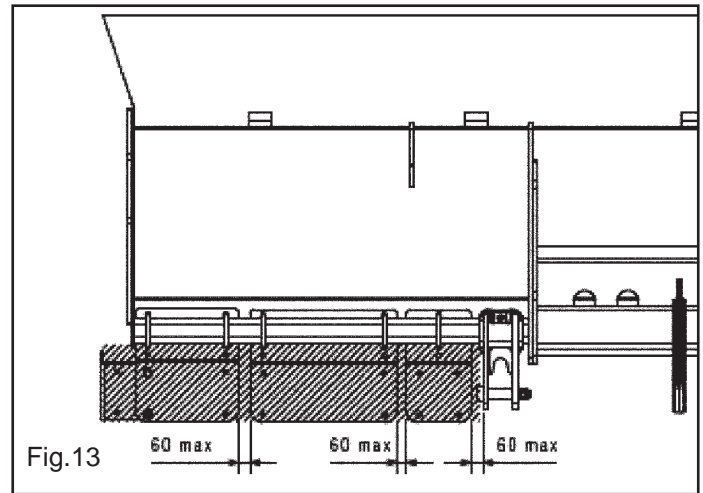
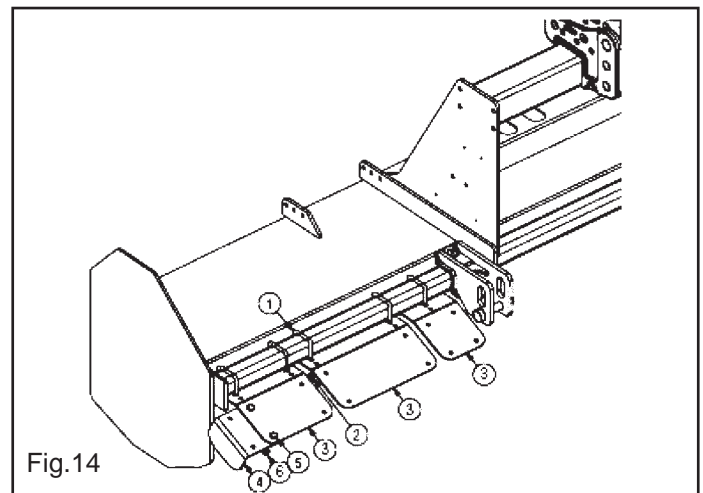
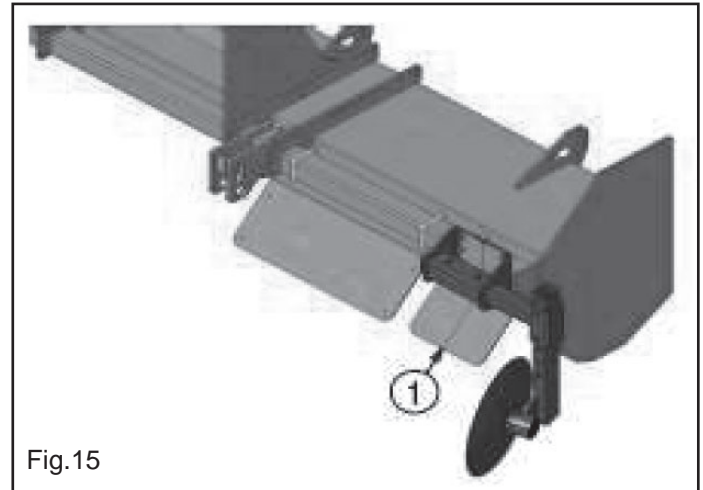

Fig.13
Fig.14
Fig.15
By using "U" bolts 1 and 2 (Fig.14), assembly the front protections 3 (Fig.14) in order to cover the shaded area going from the lower connection to the external side, as showed on the picture .A. The clearance between the front protections (3) and the clearance between the lower connections and its nearest protection, must be maximum of 60 mm (see Fig.13). External front protection (3) must be mounted as near as possible to the external side. The front-side protection (4) must be fixed to this latter, on the most external position, by means of screw (5) and nut (6). In case of assembly of optional (front wheel, track eradicators) on the shaded area, position the front protections in order to leave clearances maximum of 60 mm. In case it would not be possible to leave this clearances, or if the protections are damaged, order new ones as soon as possible, giving the serial number of the machine. In case of assembly of the side discs (Fig.15), assembly also protection 1 (Fig.15). Leave ,between the protections, a clearance of maximum 60 mm. On the side discs kit, there are two kinds of protection sheets; assembly the one that presents the same inclination of the other front protections of the machine